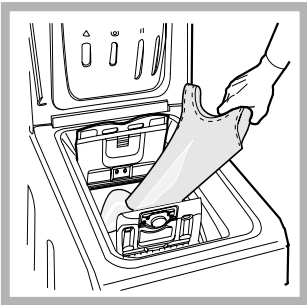

Fig. 3
C) Loading the washing machine. (Fig. 3).